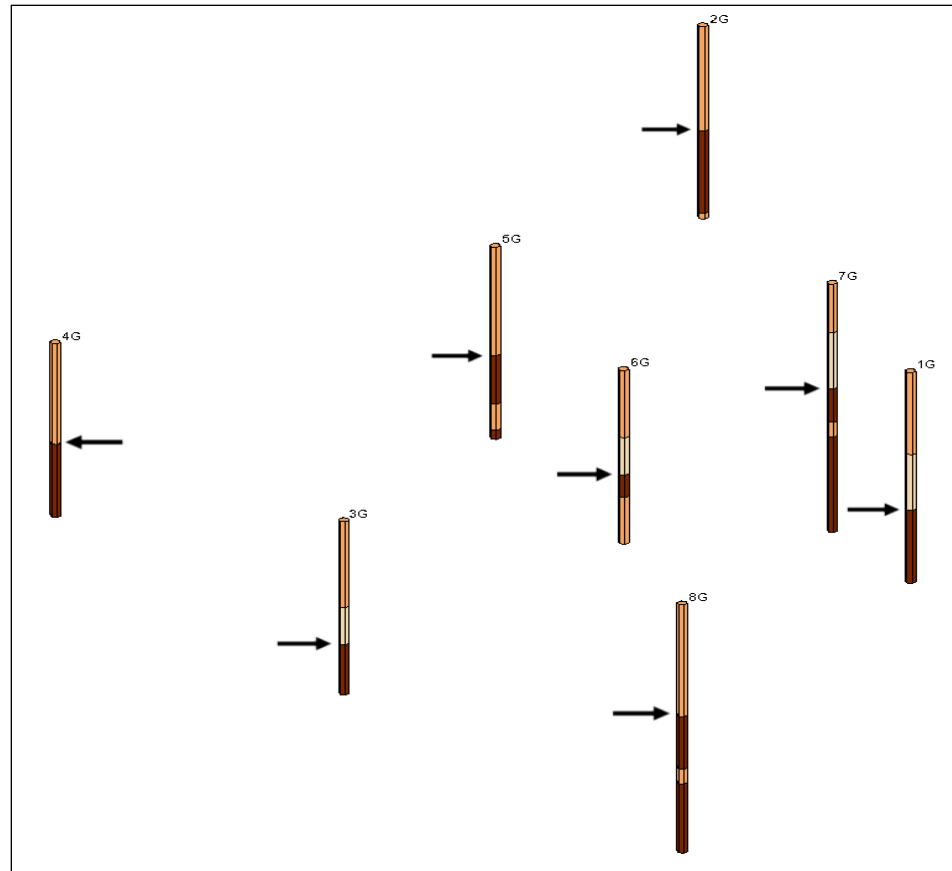

Figure 6 Contacts for Horizon 3
1. Using the **Select Contacts**  tool and the *Shift* key, select the borehole contacts shown in Figure 6.